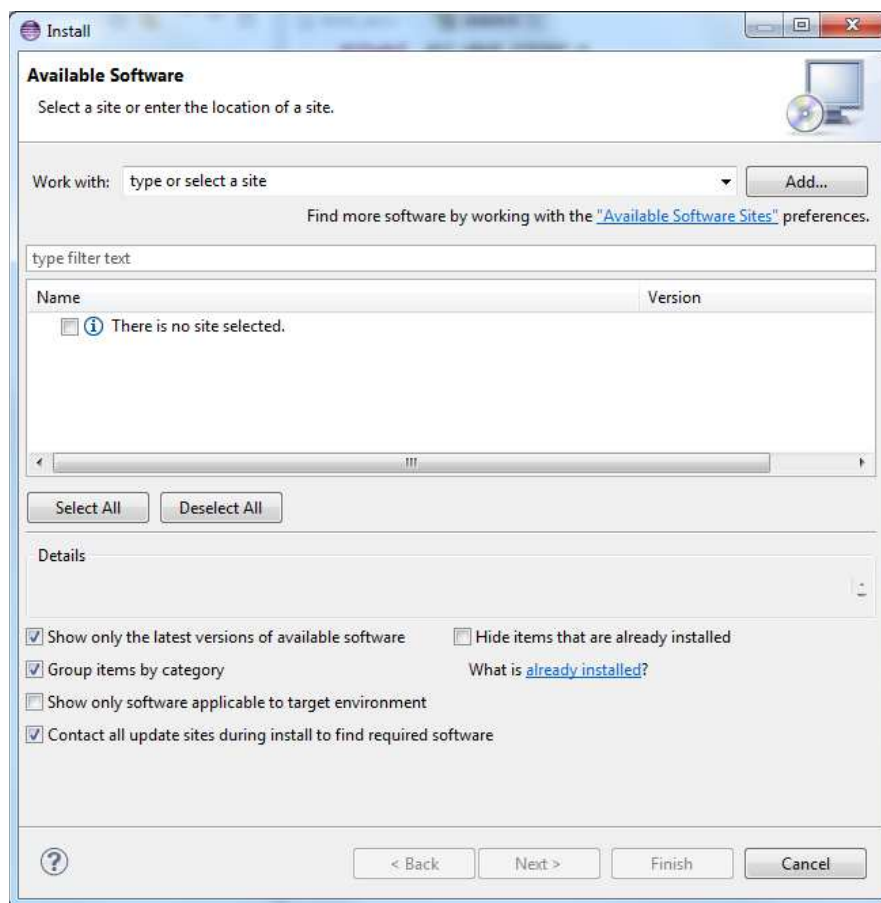

Figure 1. Eclipse - Install New Software (Windows)
6. Navigate to Help → Install New Software (see Figure 1).